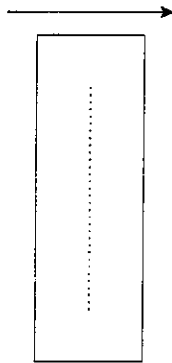

Figure 4.9 - Wiping direction on Printbar orifice plate.
3. Gently wipe the surface of the Printbar with the moist wipe across the short dimension (see Figure 4.9). *Note: Do not wipe too hard or depriming may occur.*
3. Press the appropriate priming button to prime the Printbar. Wipe the ink with the lint-free wipe across the short dimension of the Printbar. See *Figure 4.9* for an illustration.